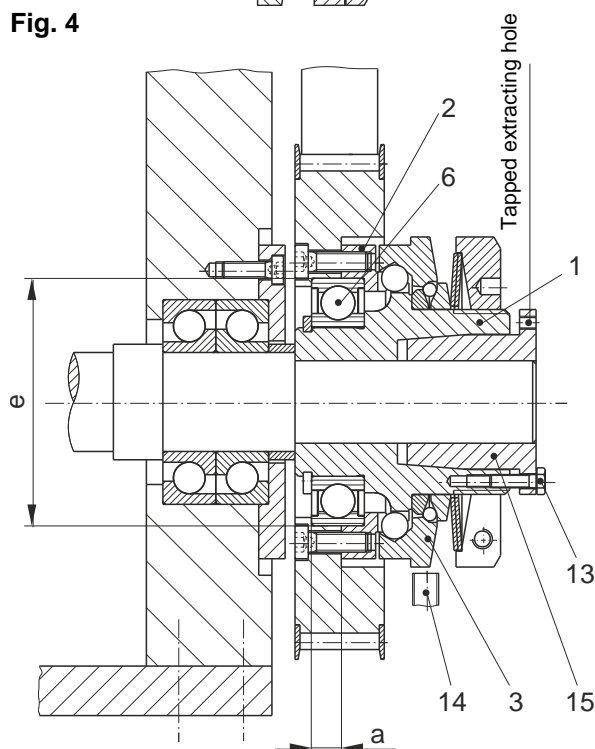

Fig. 5
In order to prevent the output element (pressure flange (2)) from moving axially in the direction of the thrust washer (3) during overload, please make sure that the bearing of the output element is designed as a locating bearing (Fig. 5).